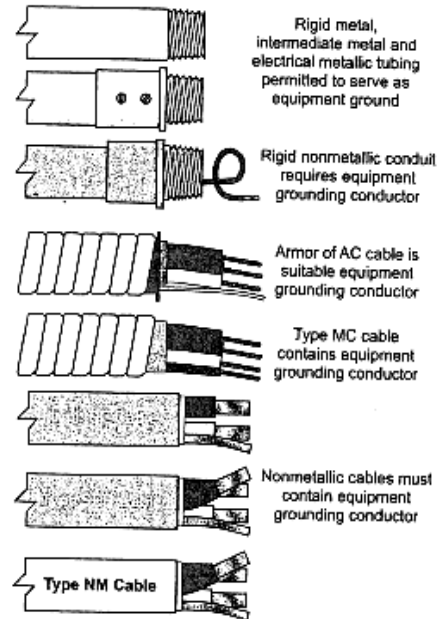

Fig. 1 Feeder is generally required to include an equipment grounding conductor.
- b. **SE or SER.** Service entrance cable shall be permitted for use where the insulated conductors are used for circuit wiring and the uninsulated conductor is used only for equipment grounding purposes. (Fig. 1)